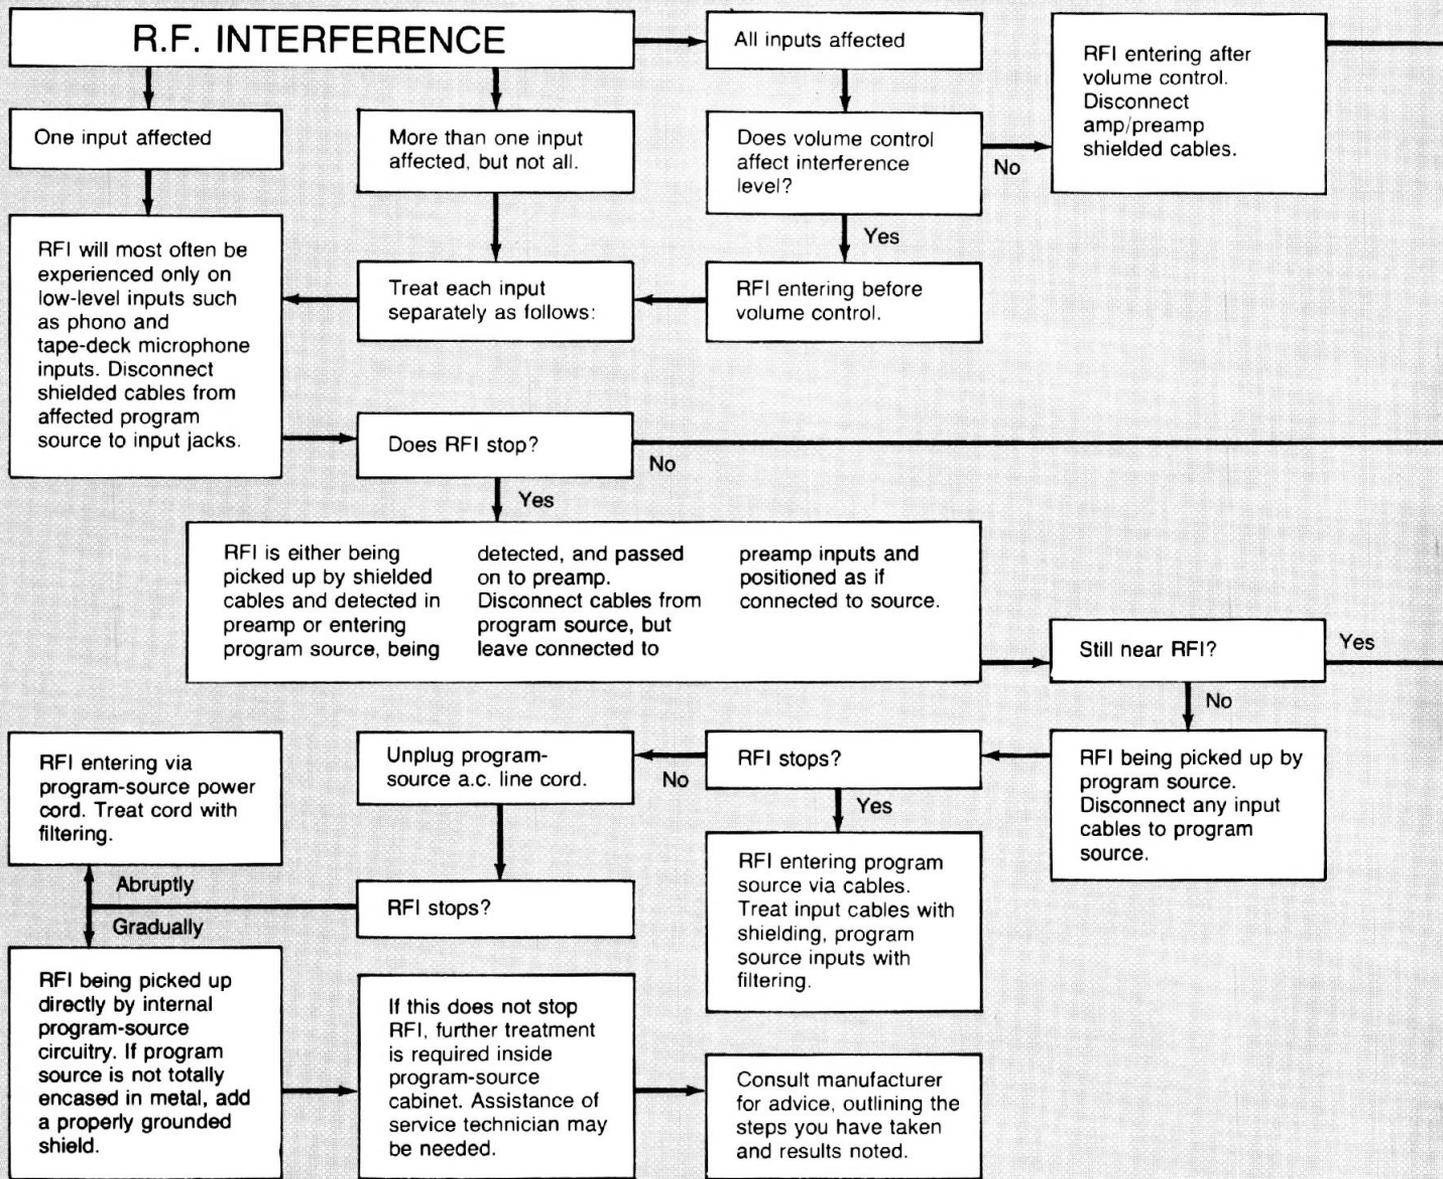

Figure 2.
**I**t would be wise to pause right here and point out that the entire RFI-hunting procedure is illustrated in the large chart, Figure 2, on the previous two pages. This is not exactly the easiest procedure in the world to follow (no trouble-shooting system is), so in the interests of clarity and at the risk of redundancy I will be taking you through the chart by hand, so to speak, using slightly different language (if not procedures) at times that may dispel an occasional ambiguity. If you understand the purpose of the procedures, the step-by-step instructions will make far more sense. To return . . .